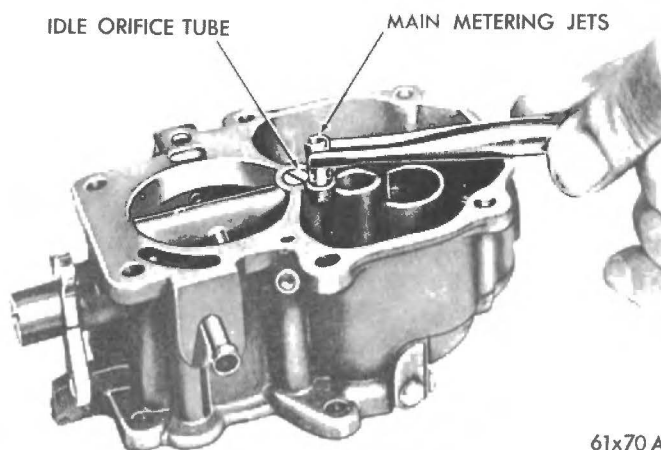

Fig. 5 - Removing or Installing Main Metering Jet.
(12) Remove main metering jet and gasket (Fig. 5).
(6) Install the main metering jet and gasket, (refer to Fig. 5). Tighten securely.